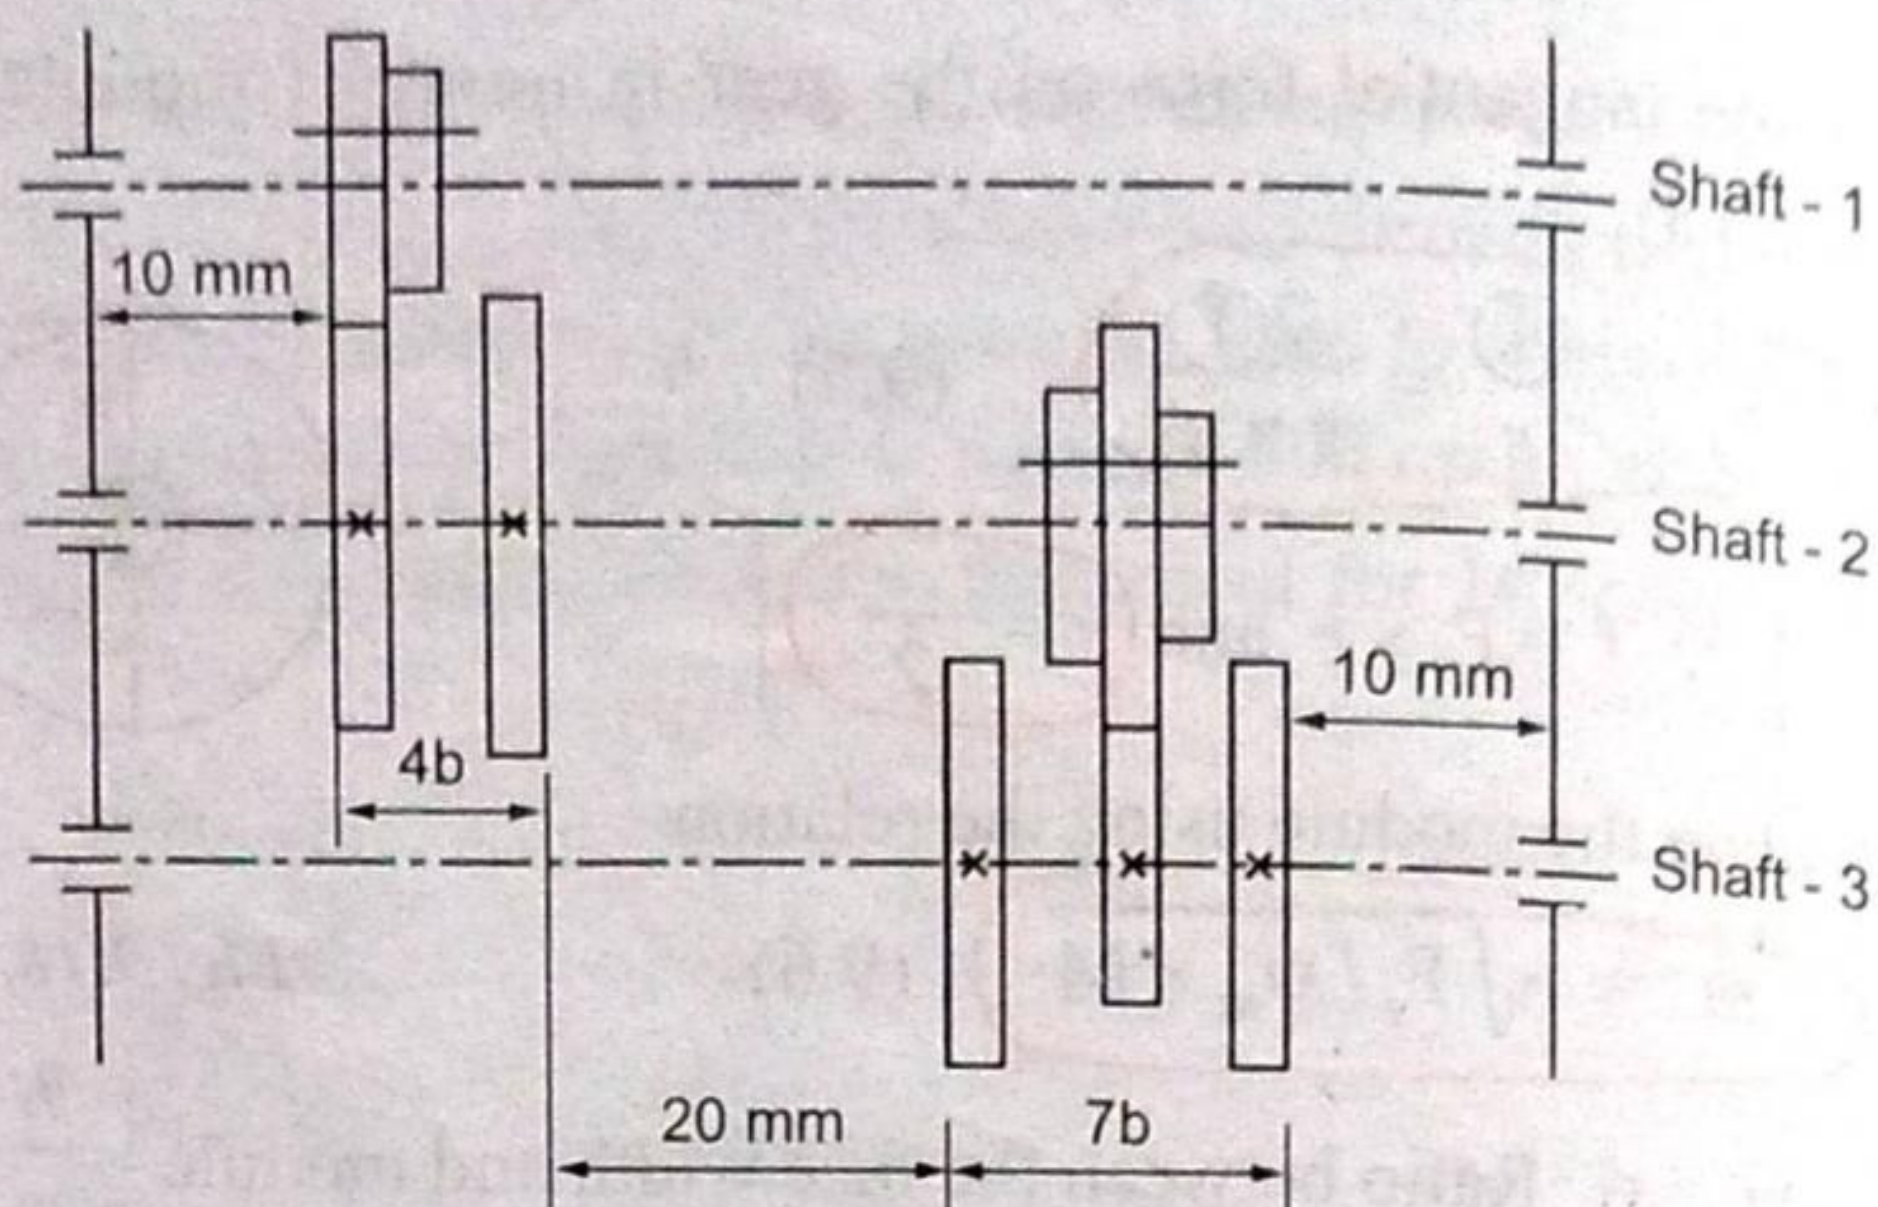

Fig. 9.19.
Calculate the distance between the bearings by using the following assumptions, (refer Fig.9.19) :
- ✓ Take the total length for two pairs gear group as  $4b$  and for three pairs gear group as  $7b$ , as shown in Fig.9.19.